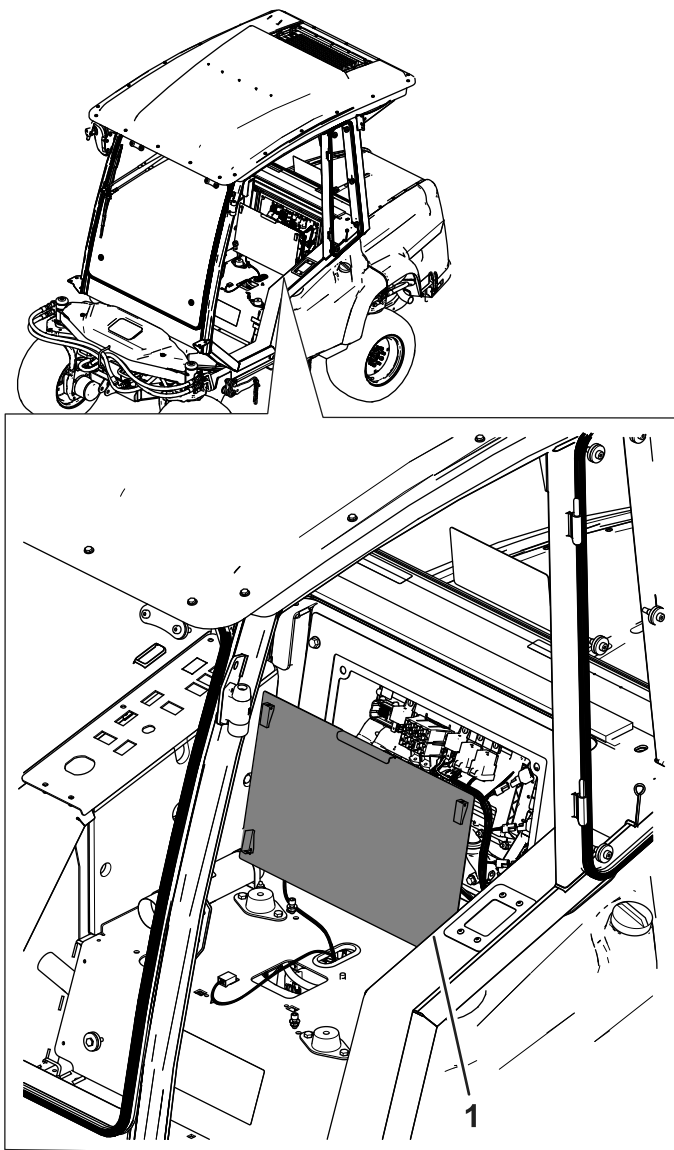
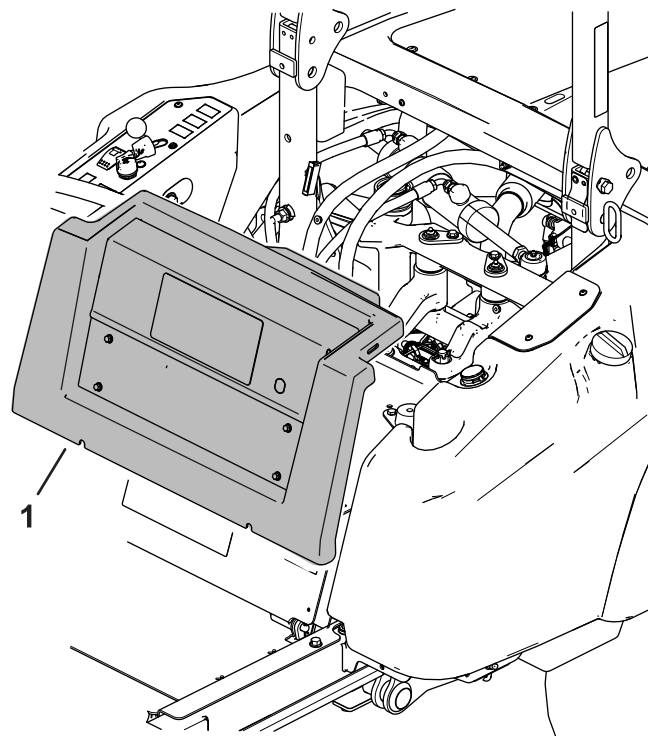

Figure 1
Figure 2
3. Tilt the back cover forward or remove to gain access to the wires (Figure 1 or Figure 2).